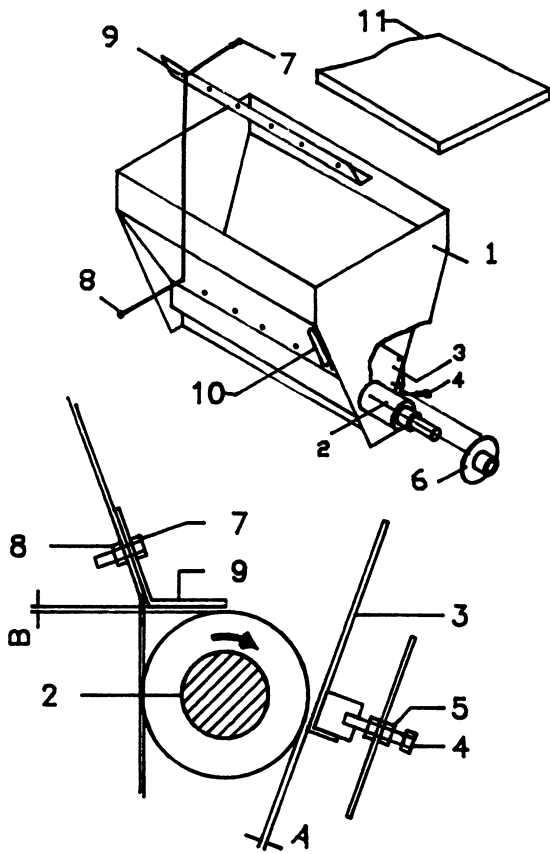

FIG.1.
3.0 THE SEED HOPPER fig. 1
The wheel 10, which is mounted independently of the machine, drives the sowing shaft 2 (Fig. 1) by means of chain 11, change wheels 20 & 14 and chain 18.